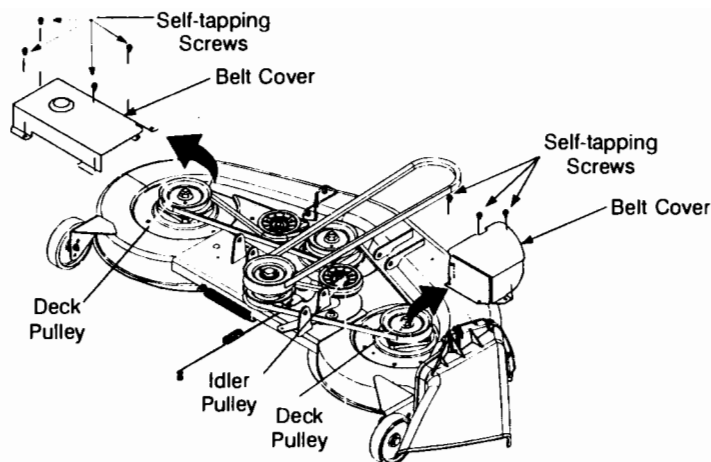

FIGURE 23 - 46" Deck
11. Remove the belt cover at the two outside deck pulleys, by removing the self-tapping screws. See Figure 23.
#### Drive Belt (See Figure 23)